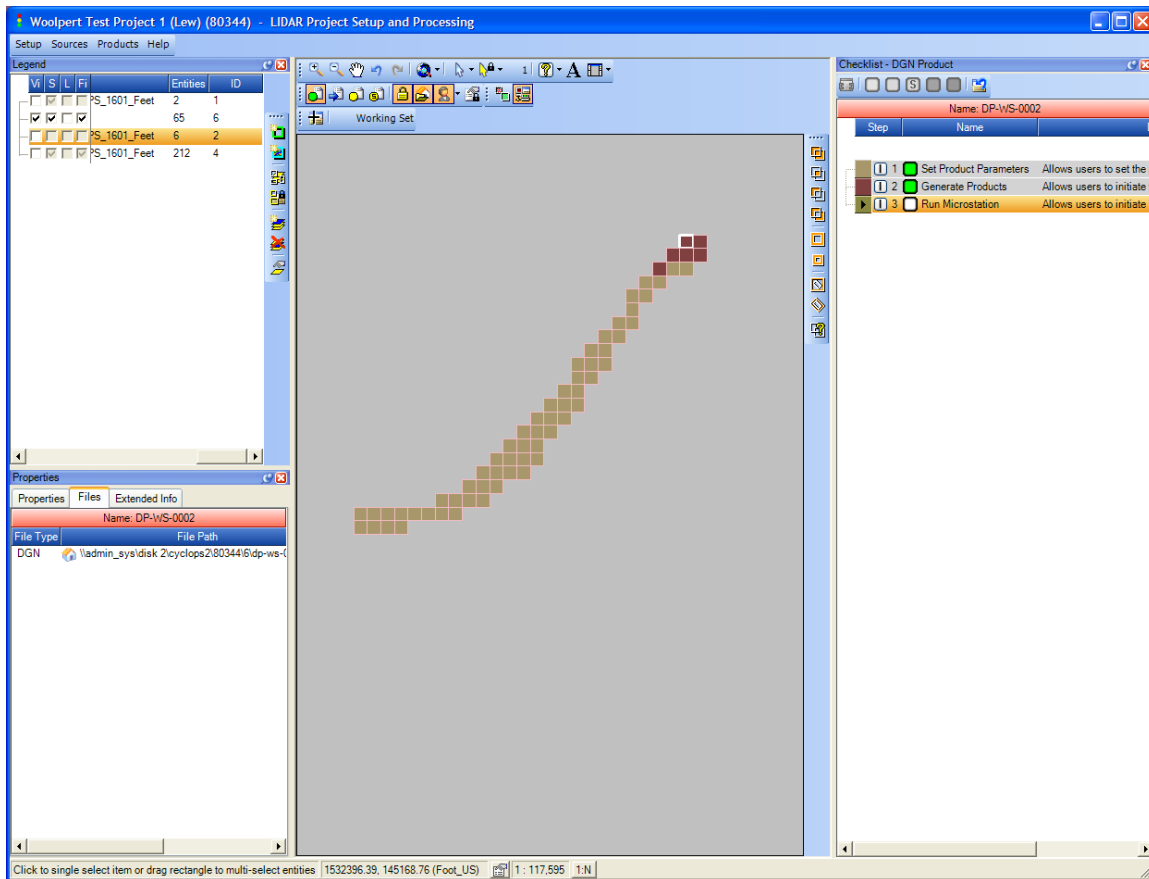

Figure 2-17 Processing status for Generate Products
As with any GeoCue processing step, you can observe the processing status of the Generate Products step by setting the (F)ill checkbox of the DGN_PRODUCT layer and setting the Complete symbology viewing mode in the Symbology toolbar (ensure that you set the user filter to either the person who performed the step or to all users). An in-progress state is shown in Figure 2-17 where 5 DGN_Products in the upper right of the project have completed.